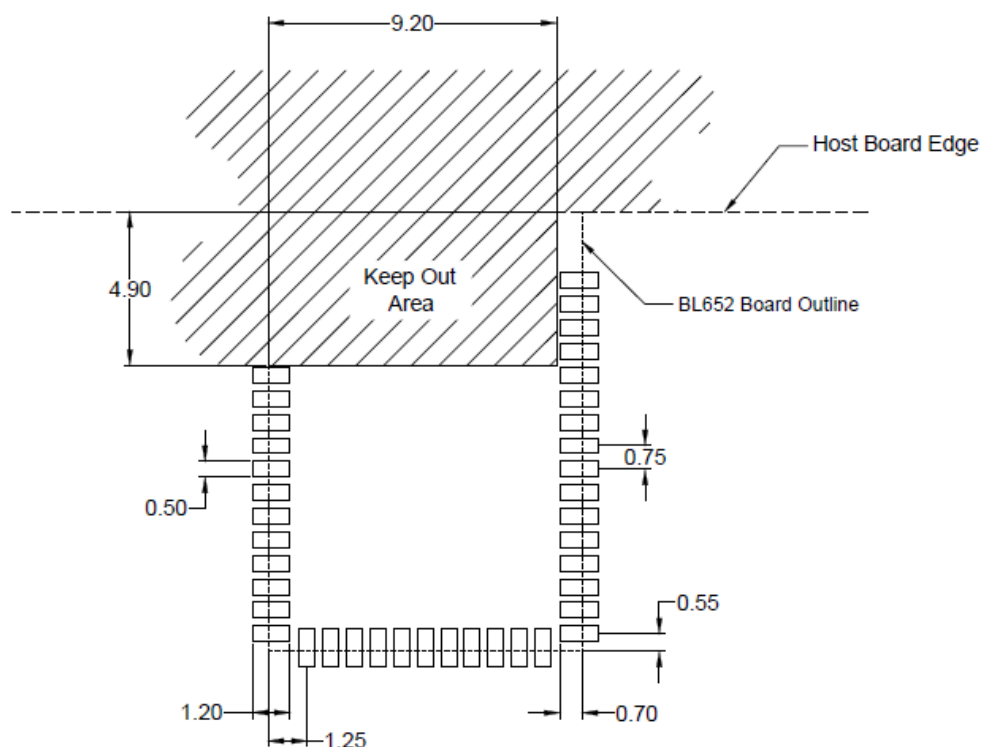

Figure 12: Land pattern and Keep-out for BL652-SA
- Note 3** BL652 development board has BL652-SA placed on the edge of the PCB board (and not in corner) for that the Antenna keep out area is extended down to the corner of the development board, see section PCB Layout on Host PCB for BL652-SA, Figure 12. This was used for module development and antenna performance evaluation.